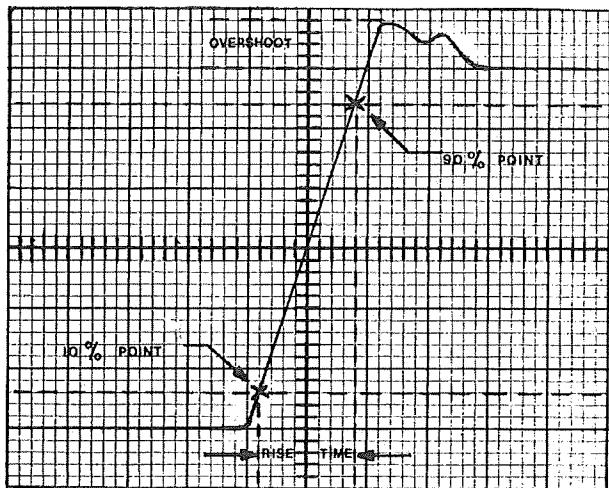

Figure 5-6. Determining Risetime
d. Obtain a stable display of a positive going edge of the square wave on the screen of the oscilloscope, as shown in figure 5-6.